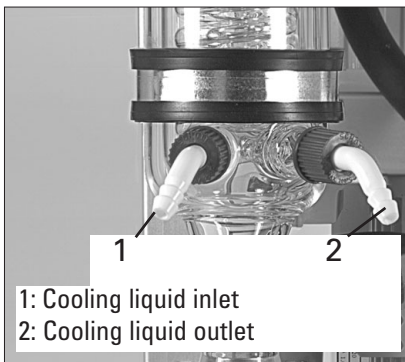

Fig. 9: Cooling liquid supply of condenser
- Cooling liquid supply of condenser see figure 9.
- See also figures 9 and 12.
- ⑥ Connect signal socket of the Vacuum Controller (on the rear) with the Electrical Supply Unit socket marked VC 1 using the connection cable.
- ⑦ Insert the Vacuum Controller power cord plug into the designated Electrical Supply Unit socket.
- ⑧ Insert the Pump Vent Valve plug